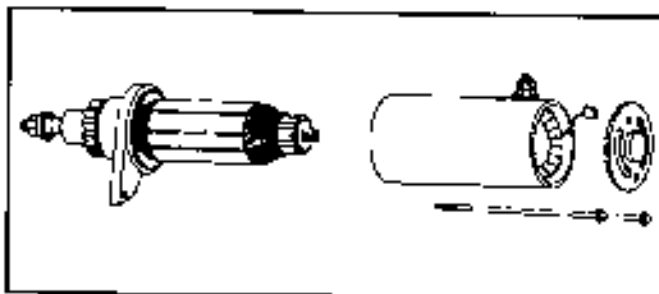
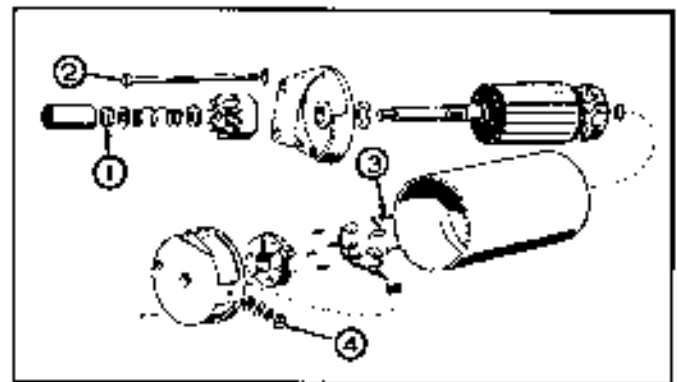

FIGURE 18-45. STARTER DISASSEMBLY (SPEC A)
FIGURE 18-46. STARTER DISASSEMBLY (SPEC B)
1. Remove the through-bolts and separate the end cap, the housing and the armature (see Figure 18-45, Spec A; Figure 18-46, Spec B).
2. Torque bolts (Figure 18-45, item 3) to a value of 3 to 3-1/2 ft-lbs. (4.1 to 4.7 N•m).
3. Torque nut (Figure 18-46, item 4) to a value of 4 to 5 ft-lbs. (5.4 to 6.8 N•m).
5. Torque stop nut (Figure 18-46, item 1) to a value of 20 to 25 ft-lbs. (27 to 34 N•m). Hold armature in a vise.
6. Torque thru-bolts (Figure 18-46, item 2) to a value of 4-1/2 to 6 ft-lbs. (6.1 to 8.1 N•m).